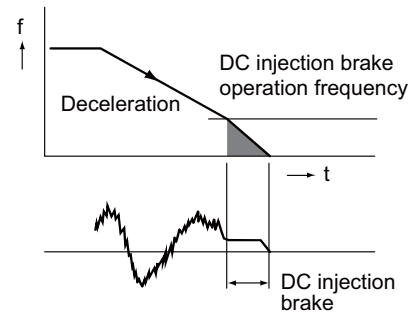

Fig.3.49 DC injection operation
- (1) When the inverter start signal (STF/STR) is turned off, the motor decelerates as shown in Fig.3.49. When the output frequency goes down to the DC injection brake operation frequency or lower, the DC voltage is applied to the motor, and then the motor stops. This is called DC injection brake. After the DC injection brake is performed for a certain time, the base signal of a transistor is turned off, by which the output is shut off.